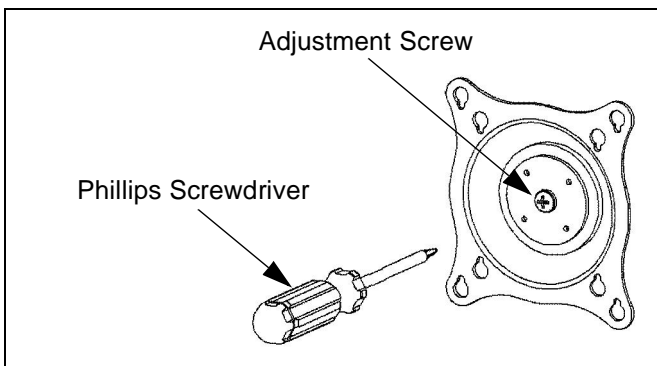

Figure 26: Single Display Adjustment
- Using Phillips screwdriver, slightly loosen or tighten the adjustment screw as necessary (See Figure 26).